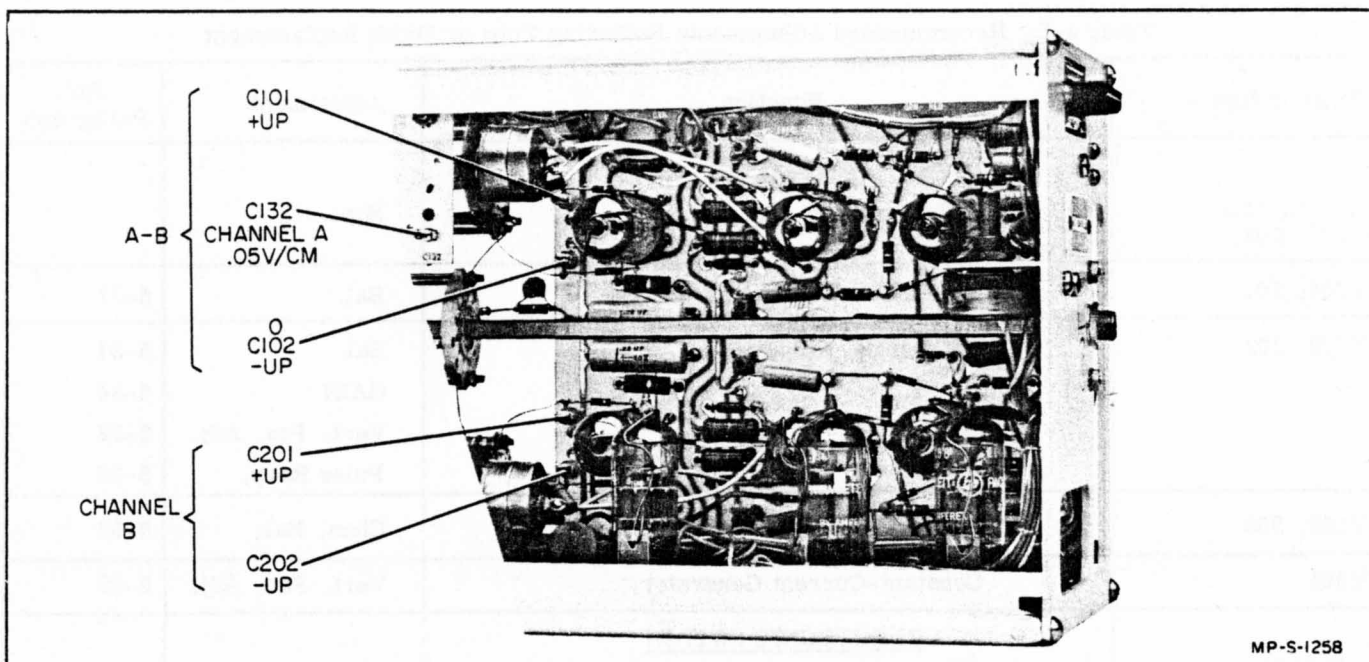

Figure 5-5. Amplifier Input Capacitance Adjustment Location
e. Adjust C201 for best square wave (figure 5-5).